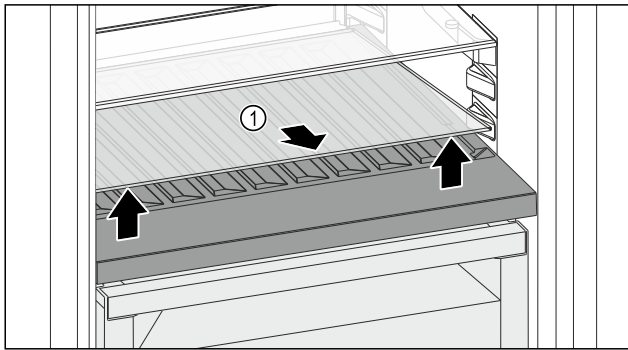

Fig. 107
- ▶ Lift the glass shelf Fig. 107 (1) at the front and remove.
- ▶ Store the glass shelf Fig. 107 (1) in a safe place outside the appliance.